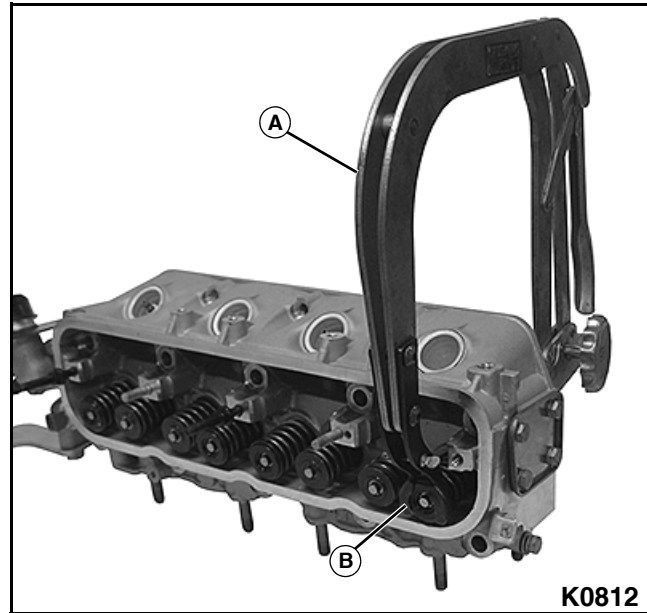

Figure 3-134: Valve Spring Compressor
1. Remove the valves from the cylinder head using a valve spring compressor (A) to compress the valve spring (B) to remove the valve retainers. **See Figure 3-134.**